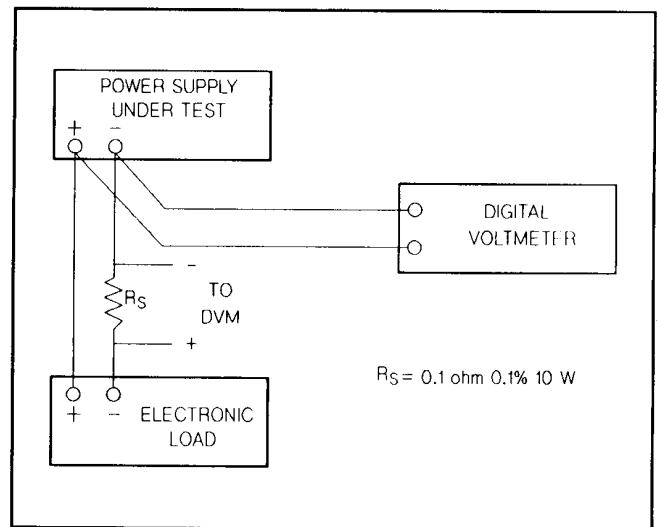

Figure A-2. Basic Test Setup
- Connect the test equipment as shown in Figure A-2. Operate the electronic load in constant current mode and set its current to the full rated value of the power supply (E3610A: 3.0 A, E3611A: 1.5 A, E3612A: 0.5 A).
- Connect the test equipment as shown in Figure A-2. Operate the electronic load in constant current mode and set its current
- a. Connect the test equipment as shown in Figure A-2, but replace the DVM with the oscilloscope. Operate the electronic load in constant current mode.
- Connect the DVM across R_S in Figure A-2. Operate the electronic load in constant voltage mode and set its voltage to the full rated value of power supply.